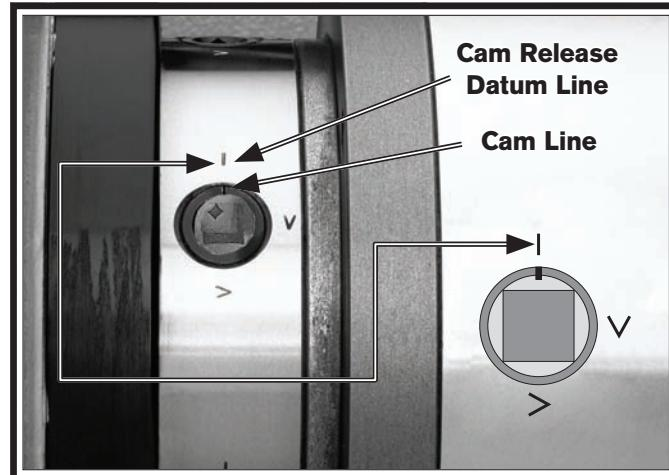

Figure 40. Camlock loosened with the cam line aligned with the datum line.
The chucks and faceplate have a D-6 camlock mount. A chuck key is used to turn the locking cams (Figure 40) to secure/release the chuck/faceplate.
3. One at a time, use the chuck key to turn each of the camlocks counterclockwise until the cam line aligns with the cam release datum line, as shown in Figure 40. As you turn the camlocks, they will rise up slightly from the spindle body.